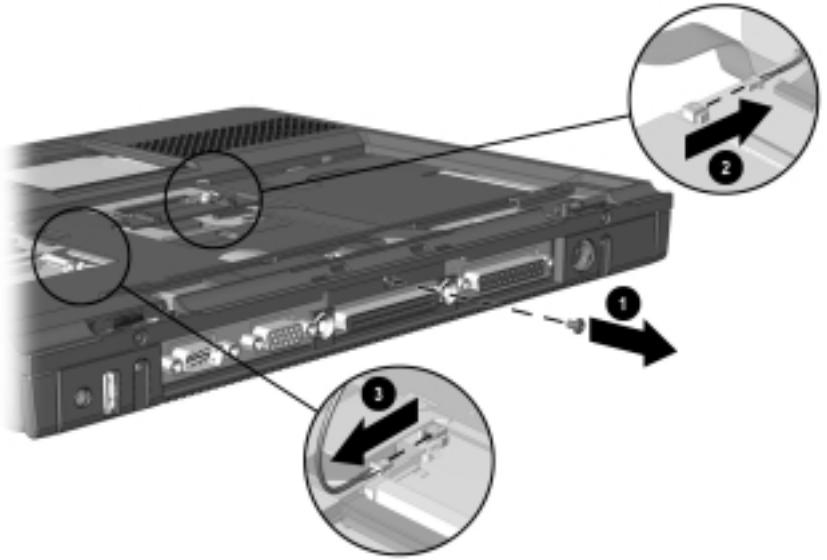

Figure 5-20. Removing the Top Cover Rear Panel Screw and Disconnecting the Speaker Cables
8. Remove the screw ❶ that secures the top cover to the base enclosure (Figure 5-20).
9. Disconnect the left ❷ and right ❸ speaker cables from the system board.